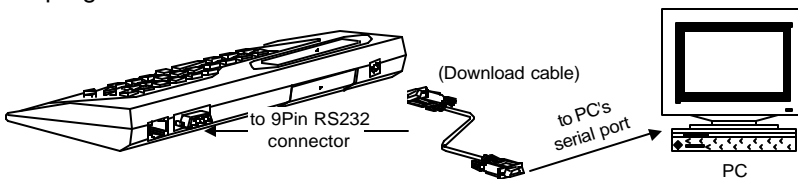

Figure 4.0.1
3. Using the download cable to connect one end of cable to KP-180's RS-232 Serial Port, and the other end to computer's COM1 or COM2 (see figure 4.0.1). PC's RS232 setting: 4800,n,8,1.